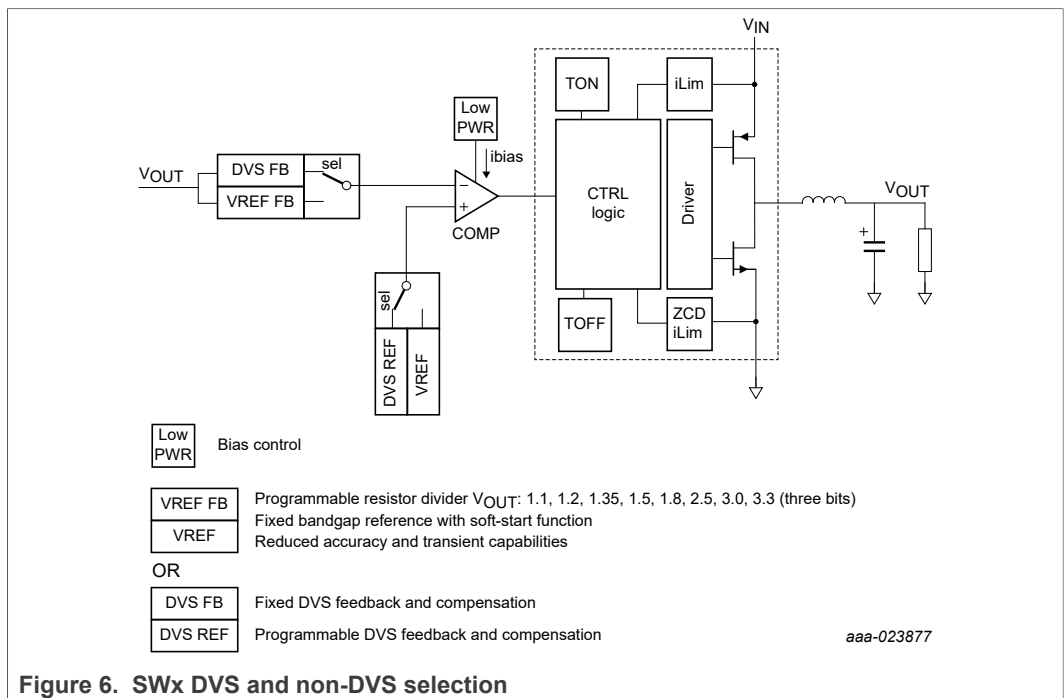

Figure 6. SWx DVS and non-DVS selection
- DVS enabled: a DVS reference is activated and output accuracy of the regulator is tight at the cost of slightly higher quiescent current. See Section 5.3 "Electrical characteristics" for details. In Figure 6, DVS FB and DVS REF are enabled via OTP for this mode of operation.
- DVS disabled: the regulator operates as a traditional buck converter with a fixed reference and soft-start. The quiescent current in this mode is lower at the cost of output accuracy and transient response. See Section 5.3 "Electrical characteristics" for details. In Figure 6, VREF FB and VREF are enabled via OTP for this mode of operation.